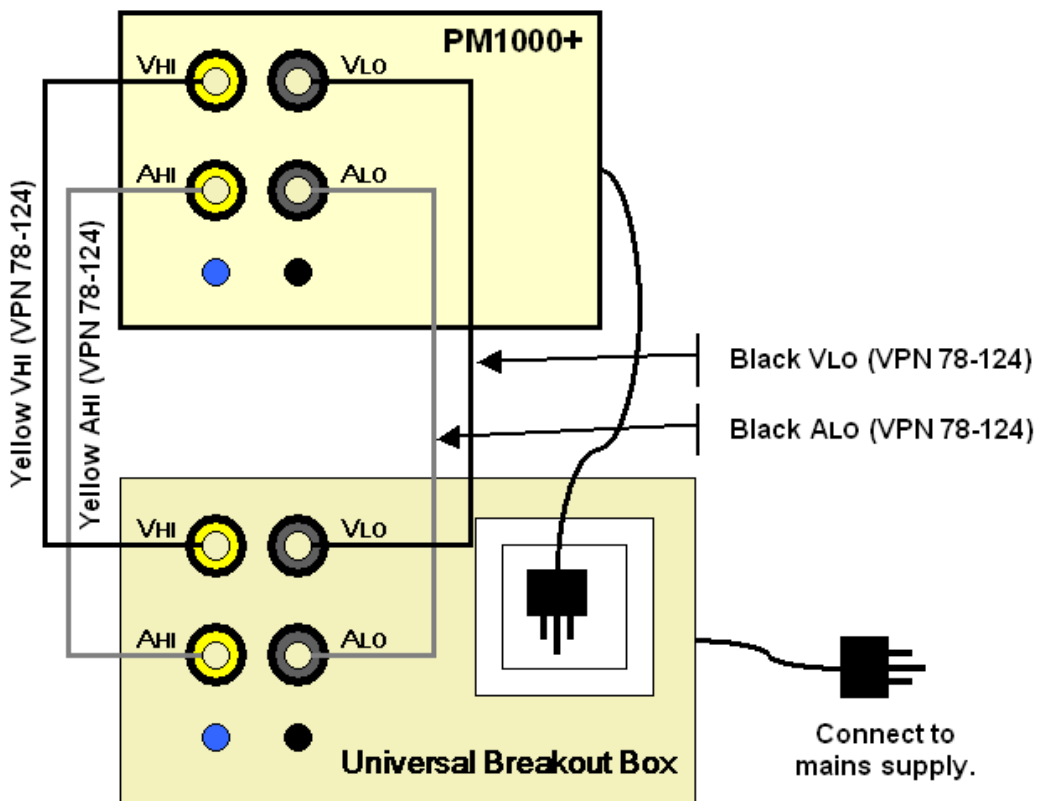

Figure 2.2 – PM1000+ to Universal Breakout Box Connection Diagram
The PM1000+ is connected to the Universal Breakout Box in a manner to allow it to measure the voltage and current used by the Unit Under Test (UUT). A connection diagram for the PM1000+ and the breakout box is shown below in figure 2.2.
- Connect the Universal Breakout Box to the PM1000+ using the PM1000+ Lead Set as shown in figure 2.2.